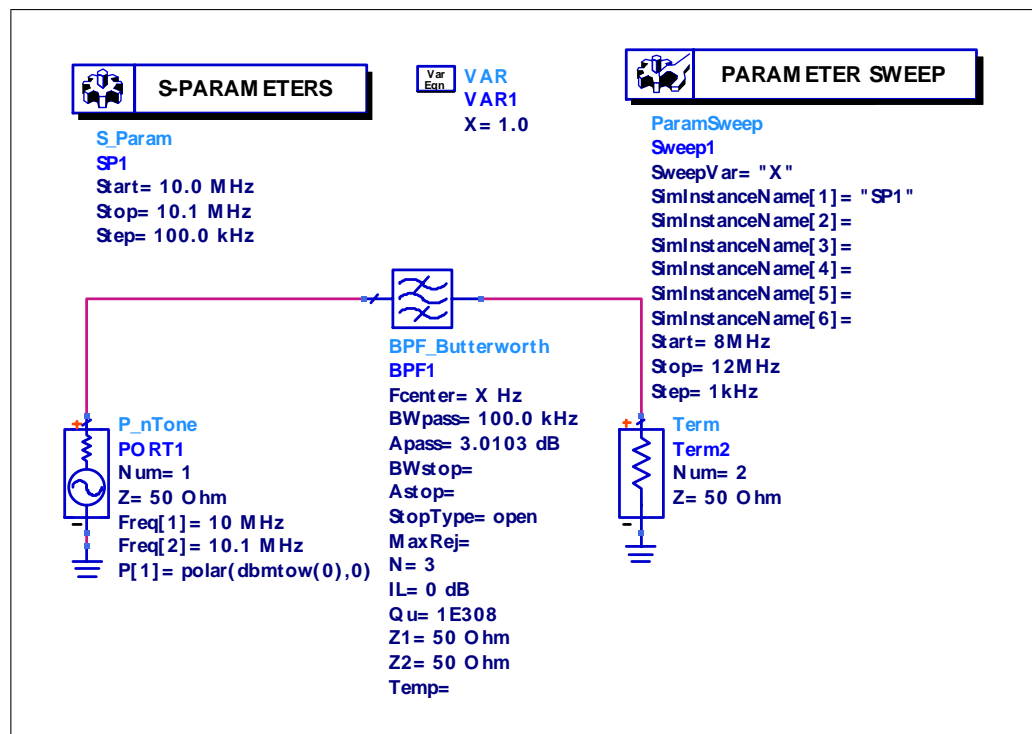

Figure. 13 Resolving two signal of equal amplitude.
1. Simulate two function generators of equal amplitude connected to spectrum analyzer as indicated in Fig 13